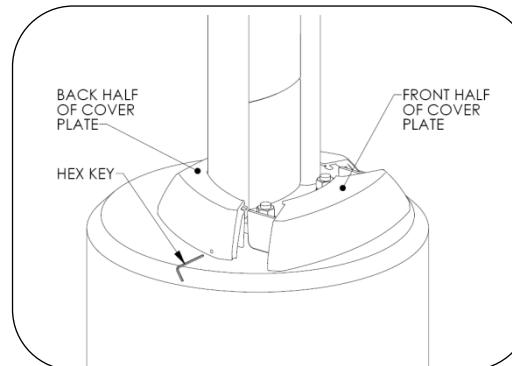

Fig.7 – Install cover plate
4. Tighten button head cap screws through the side access holes in the back cover plate as shown in Fig. 7.